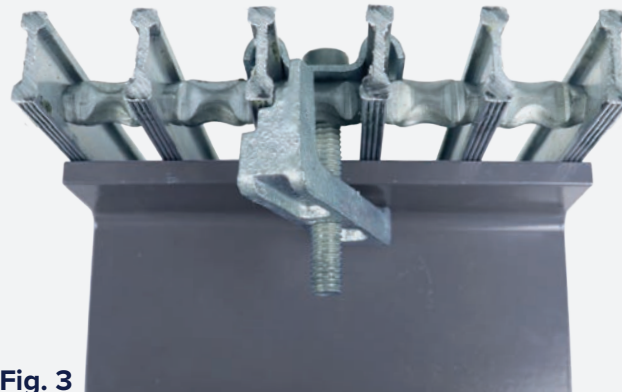

Fig. 3
4. Screw the GrateFix firmly in position on the steel connections (Fig. 3).